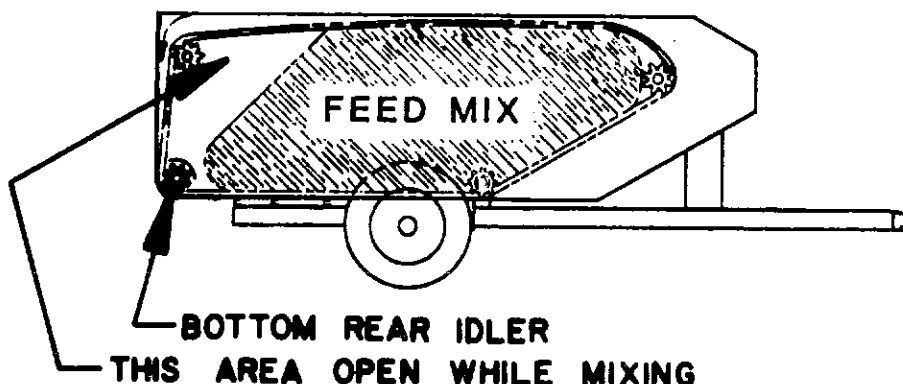

Figure 12A
The addition of grain and/or supplements may be added at any time that is convenient to the operator. It is recommended that grain and supplements be in the machine before adding silage to insure maximum distribution and a minimum of mixing time. Approximately 5 minutes is required for a thorough mixing; although, this may vary with feeds and under different conditions. During the mixing process, a portion in the rear of the machine will be empty. This is normal and essential to the mixing action of the silage-mixer. It is required that the lower rear idler sprockets be visible at maximum loaded conditions. (See Figure 12A.)
1. Never fill machine in the rear only, especially if disconnected from the tractor, as the uneven weight will cause the box to become unbalanced and up-end. Also, if too much silage is to the rear when the mixing apron starts, some spillage will occur. The rear of the box may bend if a large slug is caught between the apron slats and the back upon startup. (See Figure 12A.)
During the mixing process, a portion in the rear of the mixing tank will remain empty. This is normal and essential to the mixing action of the Silamix silage-mixer. (See Figure 12A.)
When filling and mixing, avoid overfilling the mixing tank. The mixing tank for the Model 800A Silamix has a capacity of 175 bushels (approximately 3 tons) of silage and the mixing tank for the Model 850A Silamix has a capacity of 250 bushels (approximately 4 tons) of silage. Capacities listed are for a properly filled tank with lower rear idler showing during mixing. (See Figure 12A).